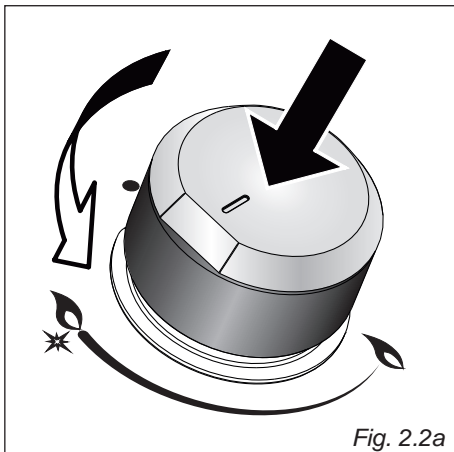

Fig. 2.2a
1. Press in the corresponding knob and turn counter-clockwise (fig. 2.2a or 2.2b) to the full flame position marked by the “” or “” symbol; hold the knob in until the flame has been lit.